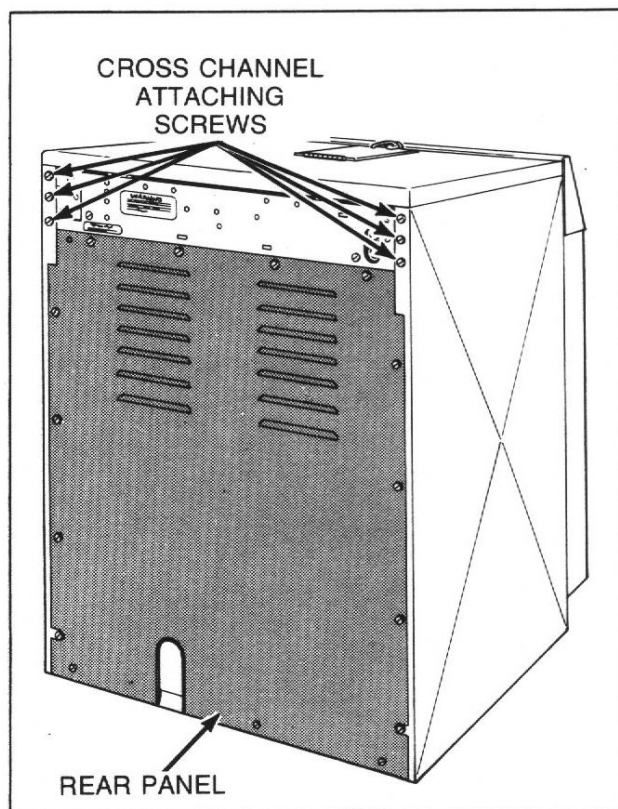

Figure 27
- k. Carefully remove screws and lockwashers holding cross channel to each side panel, *Figure 27*.
- l. Support cross channel and remove four screws holding top edge of rear panel to cross channel, *Figure 27*.
- a. Remove screws holding rear panel to washer, *Figure 27*.
- a. Remove rear panel from washer, *Figure 27*.